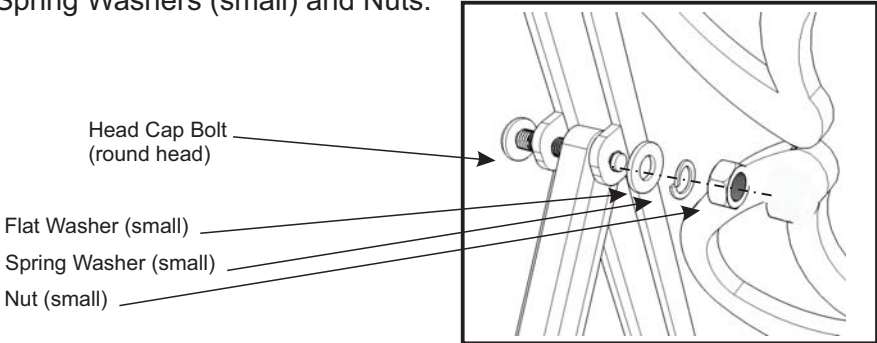

Figure 3
Attach Support (E) to Back Frame (D) with Head Cap Bolts (round head), Flat Washers (small), Spring Washers (small) and Nuts. (See Figure 3)